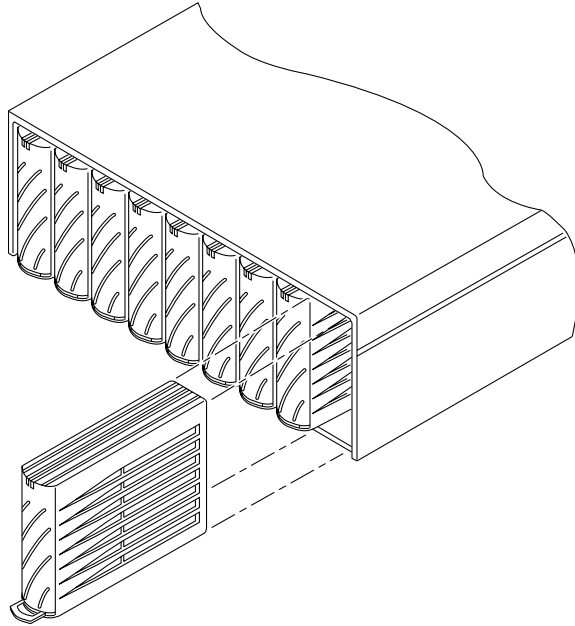

FIGURE 5-4 Removing a Disk Drive
6. Remove the disk drive from the disk tray (FIGURE 5-4).